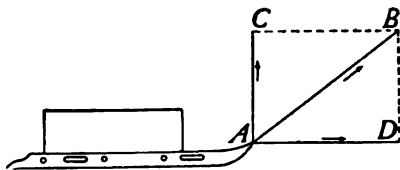

FIG. 62.— $AD$  is the effective component.
**82. Resolution of Forces.**—We have been studying the effect of forces in producing motion and the results of combining forces in *many* ways; in the *same line*, in *parallel lines*, and in *diverging lines*. Another case of much interest and importance is *the determination of the effectiveness of a force in a direction different from the one in which it acts*. This case which is called *resolution of forces* is frequently used. To illustrate: one needs but to recall that a sailor uses this principle in a practical way whenever he sails his boat in any other direction than the one in which the wind is blowing, *e.g.*, when the wind is blowing, say from the north, the boat may be driven east, west, or to any point south between the east and west and it is even possible to beat back against the wind toward the northeast or northwest. Take a sled drawn by a short rope with the force applied along the line *AB* (see Fig. 62); part of this force tends to lift the front of the sled as *AC* and a part to draw it forward as *AD*. Hence not all of the force applied along